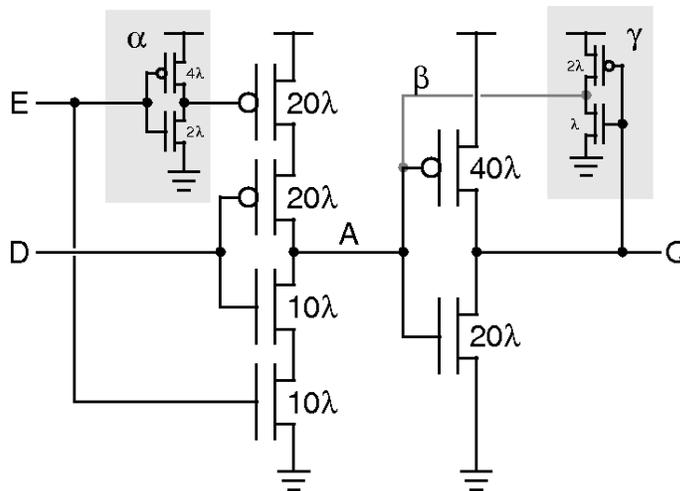

Figure 1: A typical library standard cell schematic.
3. Figure 1 shows a transistor-level schematic for a standard library component. Each transistor has been annotated with its *width* as a multiple of an arbitrary length λ ; the *lengths* of the transistor gates are all the same. The drawn size of the transistors in the figure has no specific meaning; it is for emphasis to reflect their relative widths only. Subsections in this question refer to parts of this figure.
- d) Taking the output of subcircuit γ into account via the wire β , there are two CMOS outputs connected to point A. This is normally a bad idea so why is this legitimate the circuit in figure 1? (3 marks)
- i) Write a (simple) Verilog statement/block which implements the function performed by the circuit in figure 1. (2 marks)